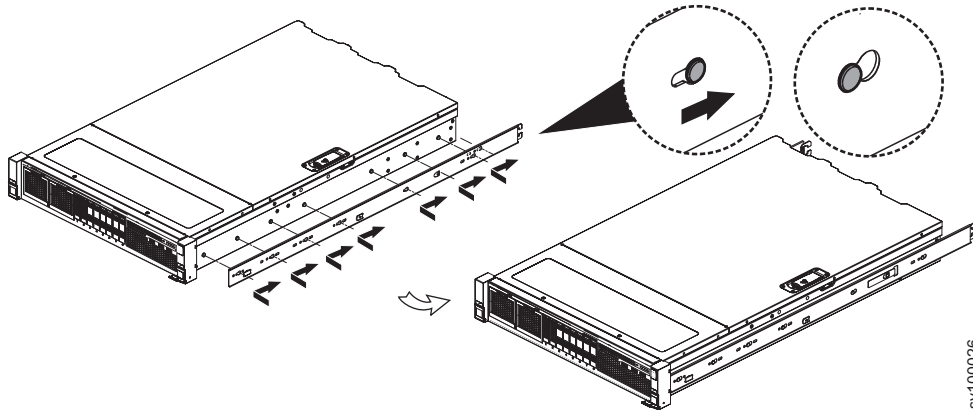

Figure 20. Attach inner rail section to chassis
4. Install the inner section of the rail onto the chassis. No screws are required. Fit the holes in the inner rail section over the heads of the pins on the side of the appliance, then slide the rail toward the rear of the appliance to lock, as shown in Figure 20.